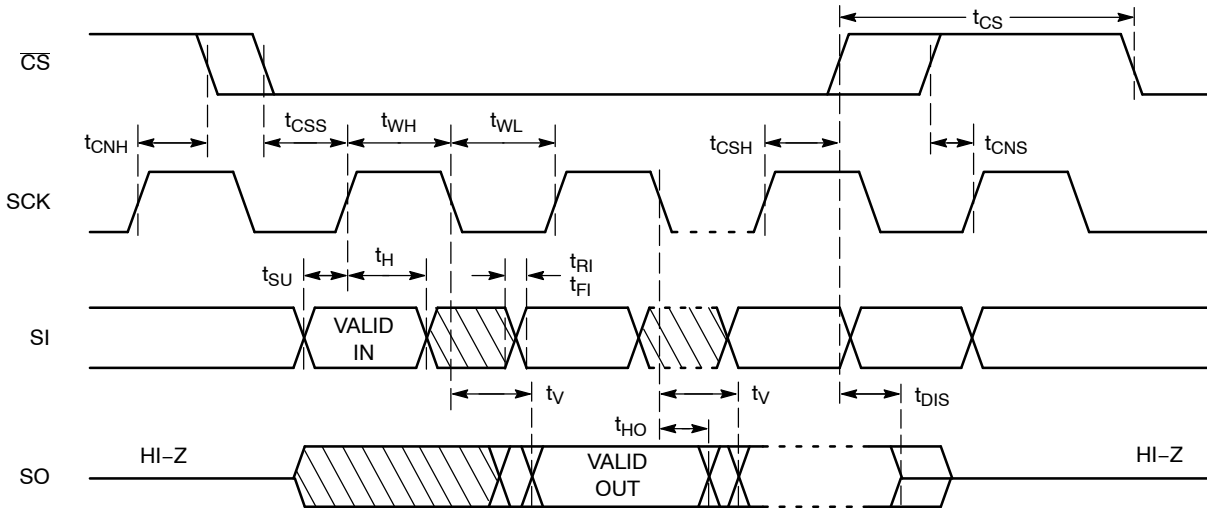

Figure 2. Synchronous Data Timing
7. **All Chip Select (CS) timing parameters are defined relative to the positive clock edge (Figure 2).  $t_{CSH}$  timing specification is valid for die revision C and higher. The die revision C is identified by letter "C" or a dedicated marking code on top of the package. For previous product revision (Rev. B) the  $t_{CSH}$  is defined relative to the negative clock edge.**
After a high to low transition on the  $\overline{CS}$  input pin, the CAT25080/160 will accept any one of the six instruction op-codes listed in Table 9 and will ignore all other possible 8-bit combinations. The communication protocol follows the timing from Figure 2.